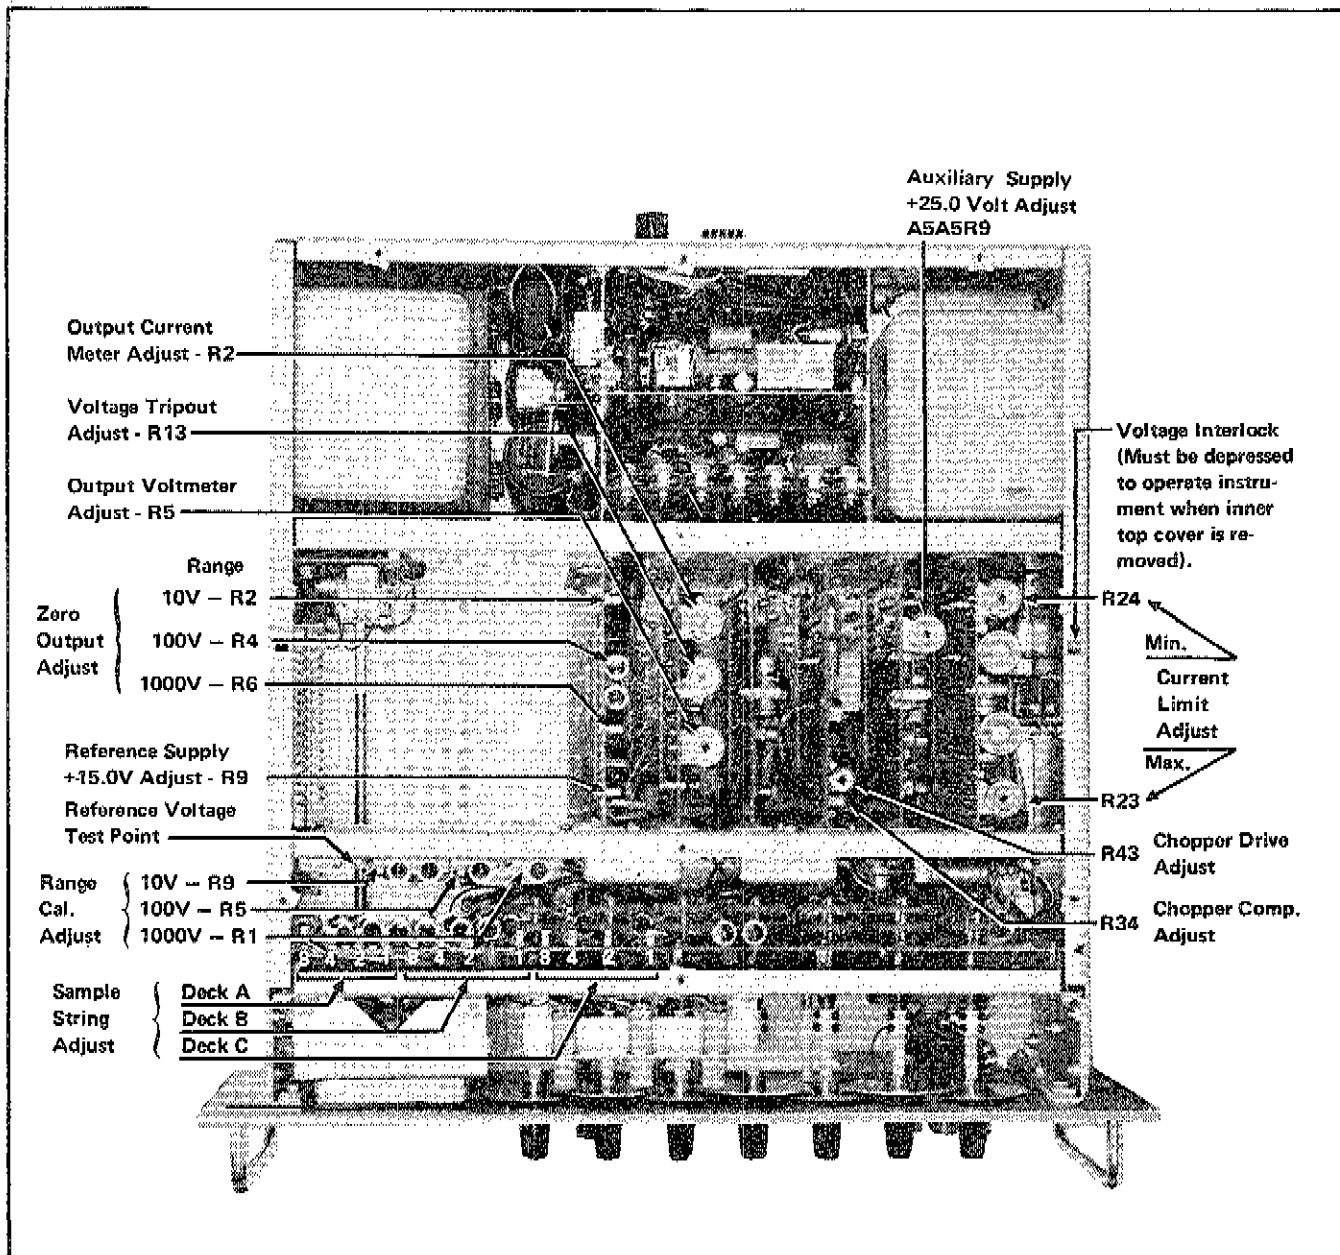

Figure 4-2. LOCATION OF ADJUSTMENTS
- b. Referring to Figure 4-2, adjust A5A5 R9 until the Model 895A indicates 25 volts, ± 10 millivolts.
- c. Referring to Figure 4-2, adjust R23 for a 60 milliampere indication on the external meter.
i. Set the RANGE and decades on the 332B as listed in Table 4-9. Adjust the 895A to the 10.0 00 00 volts. Adjust the range calibration pots (CAL) shown in Figure 4-2 as required.